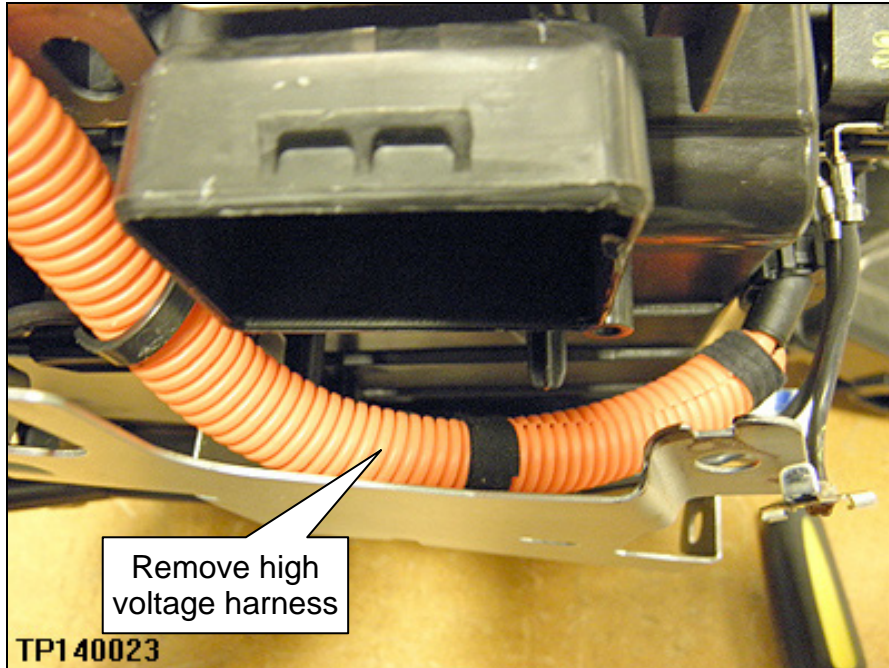
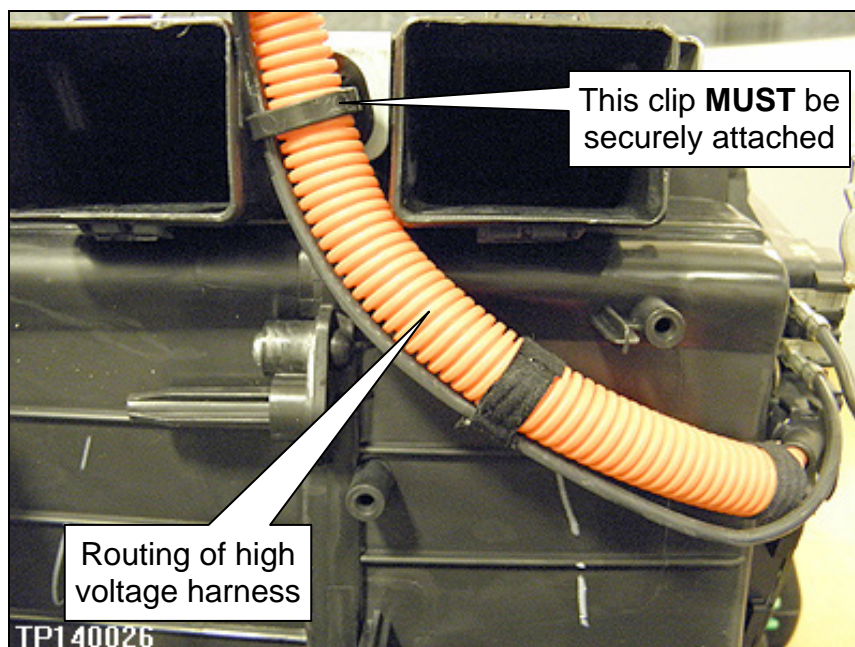

Figure 30
Figure 33
6. Remove high voltage harness (shown in orange) from under the lower shield (Figure 30).
- The high voltage harness must be routed as shown in Figure 33, and it must be under the lower shield. NOTE: Figure 33 has the lower shield removed for reference only. Figure 30 on page 22 shows the harness under the lower shield.
- Confirm that the high voltage harness clip is securely attached to the PTC heater shield as shown in Figure 33.